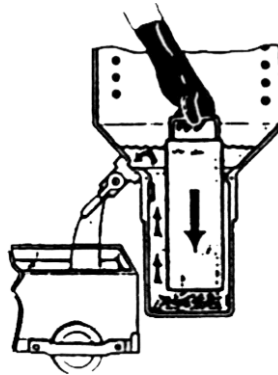

FIGURE 24
5. **CAUTION:** Wearing safety gloves, with drain valve still open, use displacement tool to force enough cooking oil up and out of drain valve to allow safe removal of collector (FIG. 24)